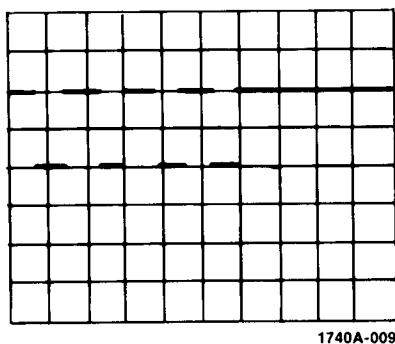

Figure 3-8. Mixed Sweep Display
d. Press MIXED 49 and observe that first portion of the display is at main TIME/DIV 34 sweep rate and second portion is at delayed TIME/DIV 35 sweep rate (see figure 3-8). The transition point from main sweep to delayed sweep can be varied by adjusting DELAY control 47.